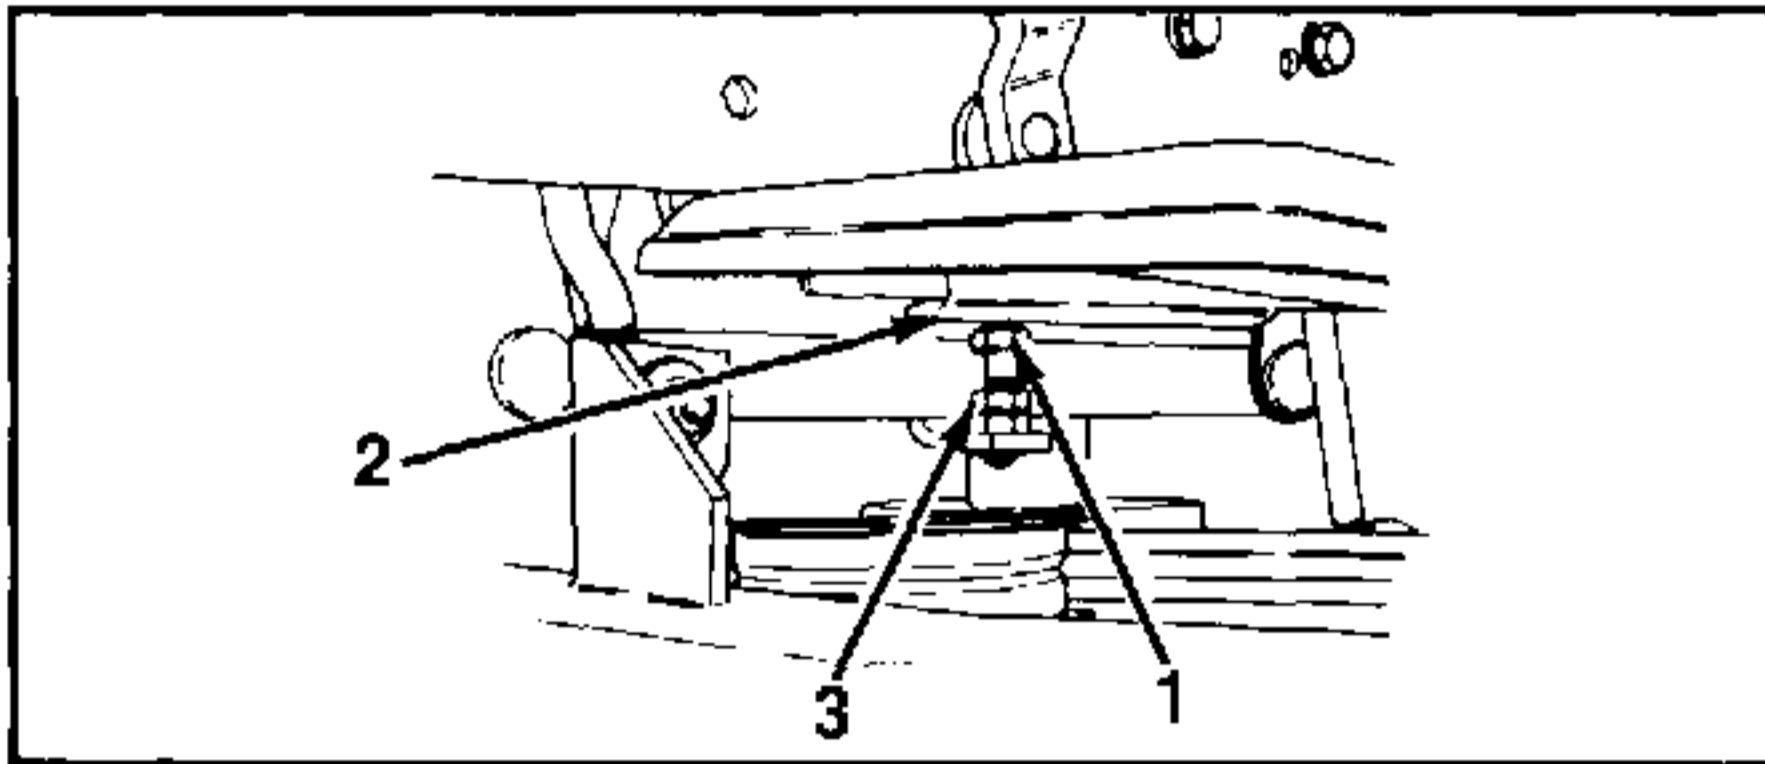

FIGURE 2.
2. Assemble reinforcement rod to middle hole in front hanger bracket on tractor as shown in figure 2.